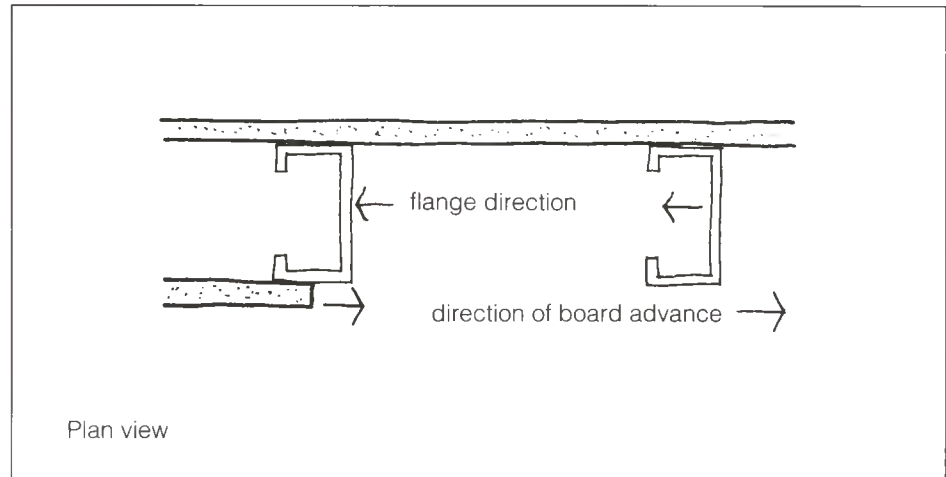

Fig. 23. Mounting direction
- Install metal studs with all flanges facing the same direction and mount drywall in the direction opposite to flanges (*fig. 23*). This prevents flange deflection and later joint problems.